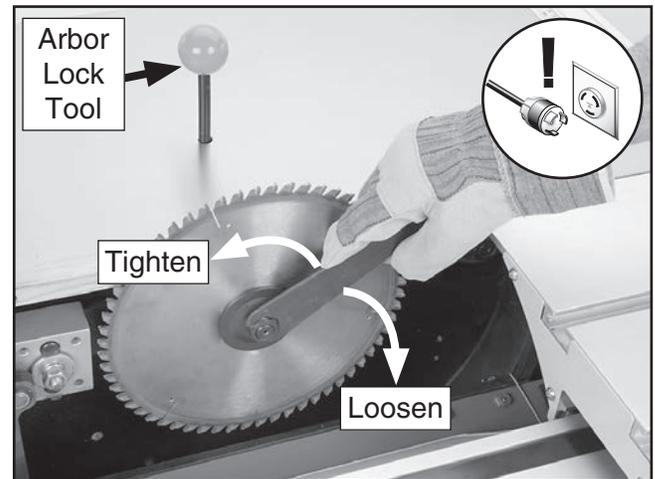

Figure 43. Replacing the main blade.
6. Use the arbor wrenches to remove the arbor nut and arbor flange, as shown in **Figure 43**, then pull the old blade off the arbor. *The arbor nut has left-hand threads and loosens by turning clockwise.*